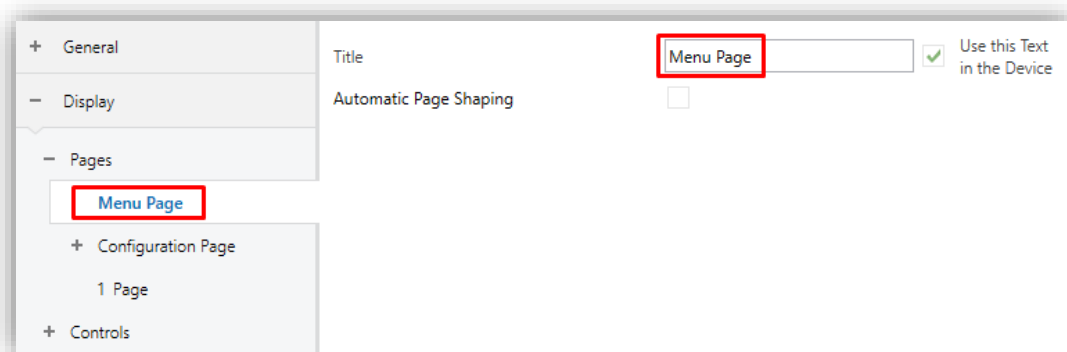

Figure 52. Menu
- **Title:** text field that identifies the menu pages. In addition, this field allows changing the name of the tab in ETS left menu, as shown in the Figure 52.